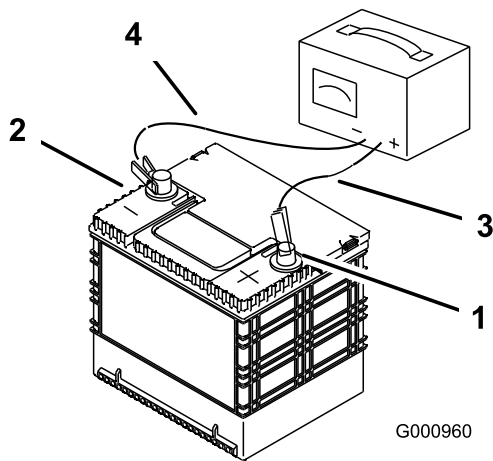

Figure 61
2. When the battery is fully charged, unplug the charger from the electrical outlet, then disconnect the charger leads from the battery posts (Figure 61).